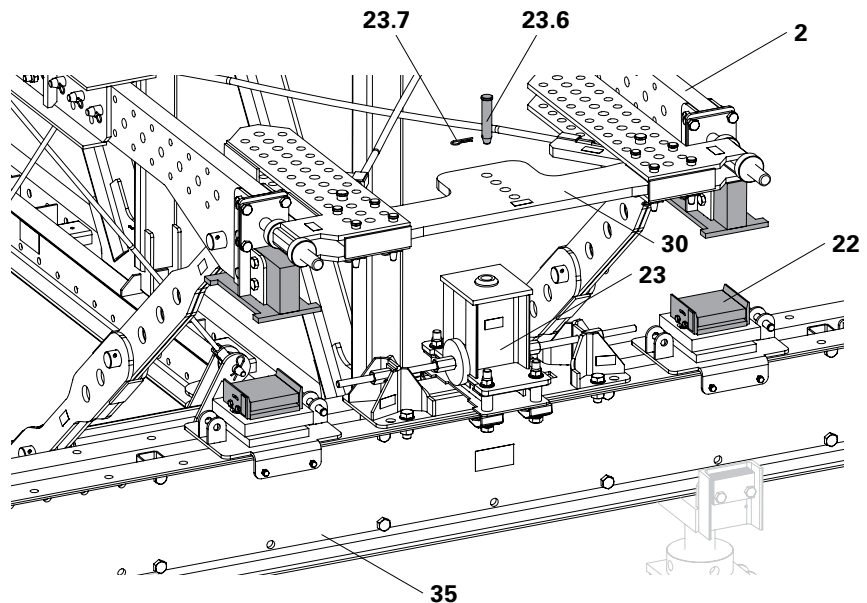

Fig. B1.03
1. Remove cotter pins (23.7) and pull bolts out of the Horizontal Bearing (23).
4. Crane in the truss package and position above the Main Beams (35).
5. Slowly lower the truss package and place the Bearing Frames (2) on the Longitudinal Bearings (22).
6. Insert the bolt (23.6) through the designated hole on one side of the truss package and connect the Bracing Traverse (30) to the Horizontal Bearing (23).
- (Fig. B1.03)